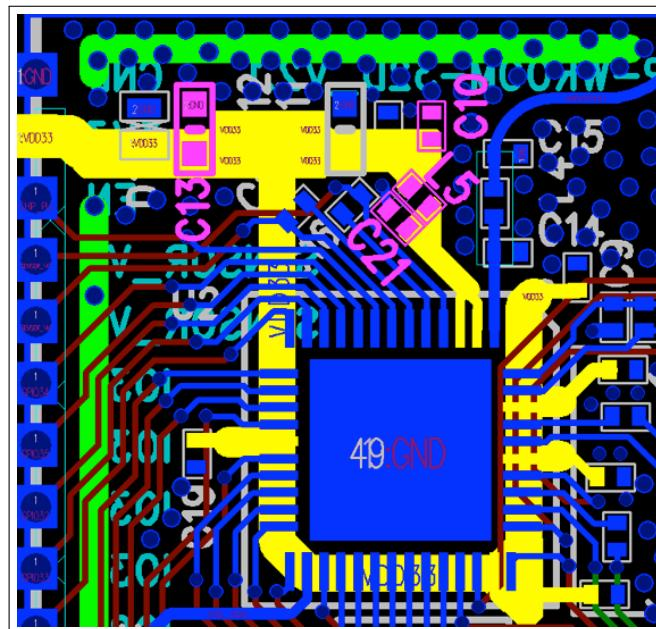

Figure 14: ESP32 Power Traces in a Four-layer PCB Design
- The 3.3 V power traces, highlighted in yellow, are routed as shown in Figure 14. The width of the main power traces should be greater than 25 mil. The width of the power traces for pin3 and pin4 should be at least 20 mil. The width of other power traces should be within the range of 12 ~ 15 mil.
- As shown in Figure 14, an ESD protection diode is placed close to the power port (marked in red circle). A 10  $\mu$ F capacitor is required before the power trace connects the ESP32 chip, to be used in conjunction with a 0.1  $\mu$ F capacitor. Then the power routing is divided into two ways. The power rails of pin3 and pin4 should be routed together to reduce the coupling between different power pins.
- It is required to place C (capacitor) and L (inductor) near the power pins pin3 and pin4. As shown in Figure 14, C13 (10  $\mu$ F) is placed at the entrance of the power, and C10, L5, and C21 are placed near the chip’s analog power pins. When possible, add a 0.1  $\mu$ F capacitor to each digital power supply pin. Note that all decoupling capacitors should be placed close to the power pin, and ground vias should be added adjacent to the ground pin for the decoupling capacitors to ensure a short return path.